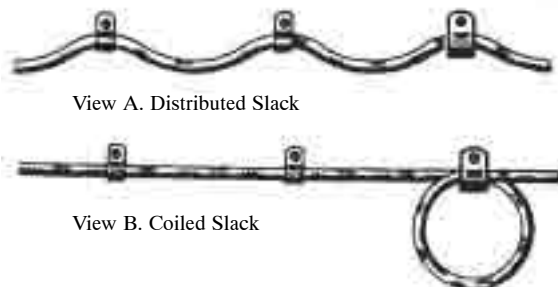

Figure 47. Distributing Slack in Thermocouple Wire
a. Distribute excess slack evenly between wire supports, as shown in Figure 47, View A.
b. If sufficient slack is available, take it up at a support, in the form of a loop of which the diameter is at least 20 times the thickness of the thermocouple wire, as shown in Figure 47, View B.